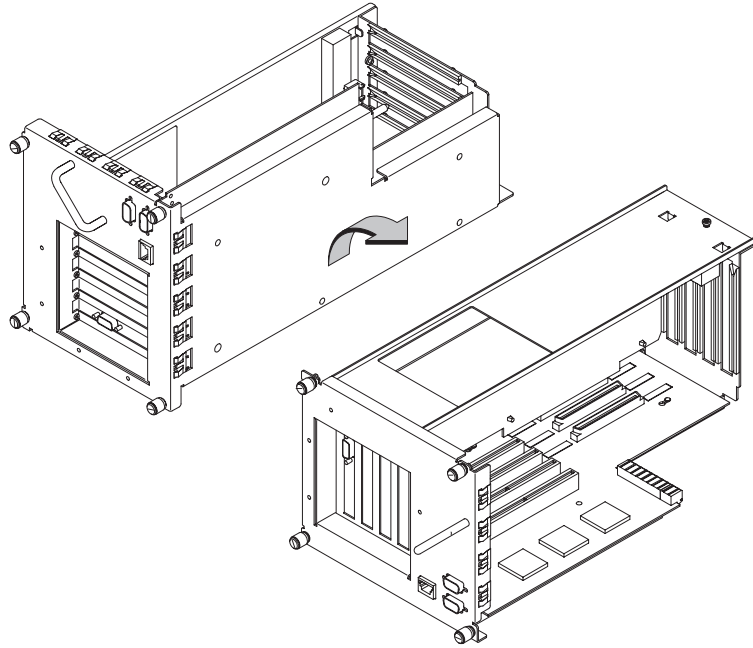

Figure B-36. Rotating the PCI/EISA Assembly for Installation
2. Rotate the unit 90 degrees clockwise and place on a flat surface, as shown in Figure B-36.